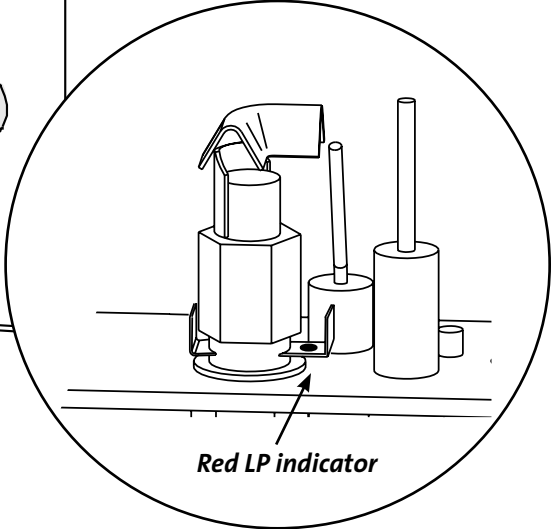

Figure 7.3.
5. Change the Burner Injector. See fig. 7.3. Using a 1/2" open end wrench or deep-well socket, remove the burner injector from the brass elbow and replace it with the injector supplied in the conversion kit.
6. PROPANE ONLY: Install the 1/2" Air Shutter Lock Screw (Fig. 7.3) provided in the LP Conversion Kit. The screw automatically sets the new, minimal shutter opening.
7. Convert the dual-fuel pilot orifice. Fig 7.3.